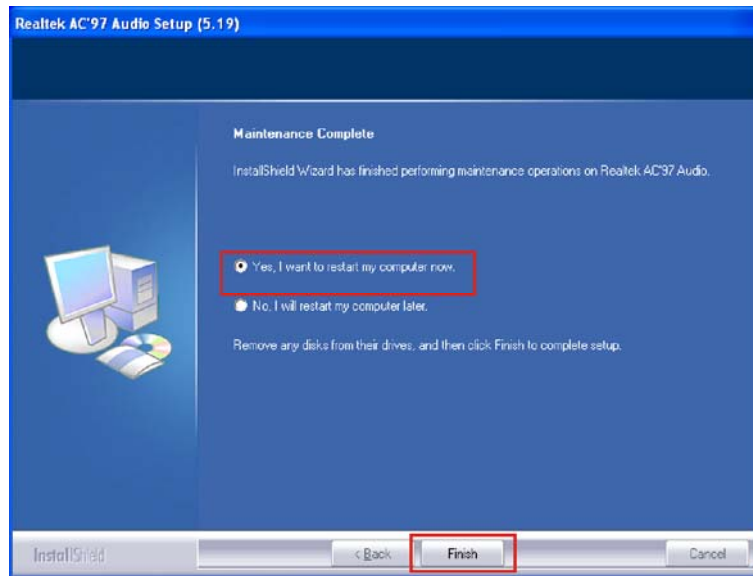

Figure 7-20: AC'97 Driver Installation Complete
Step 49: When the driver is installed, the driver installation finish screen in Figure 7-20 appears.